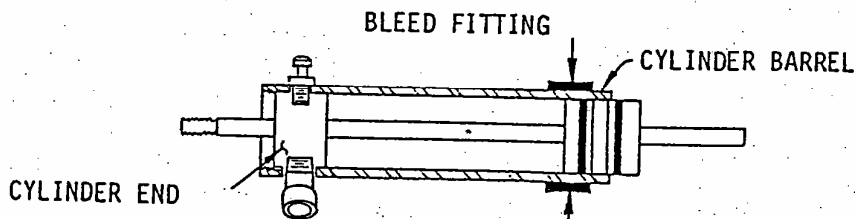

Fig. 8.
3. Insert either cylinder end (they are identical) into the end of the cylinder barrel as illustrated in Fig. 8, taking care not to damage the rod seal when sliding over the rod threads. Once again, be certain that the piston rod does not move too far to the right as cautioned above. Make sure the threaded hole aligns with hole in barrel.